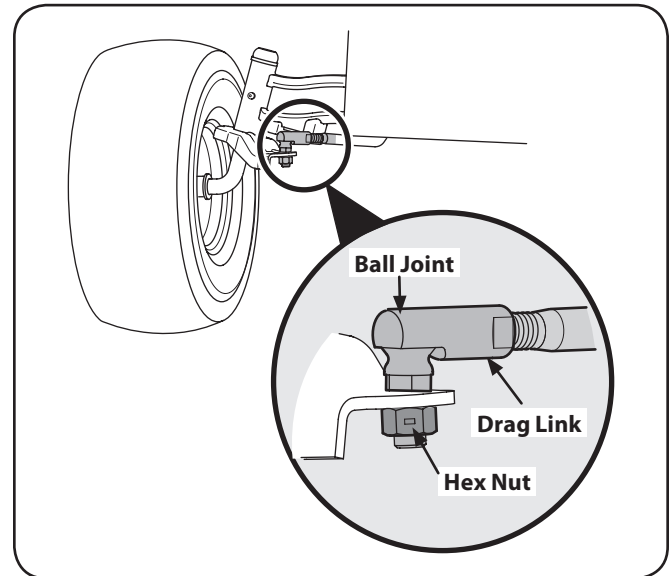

Figure 6-7
1. Remove the hex nut below ball joint. See Fig. 6-7.